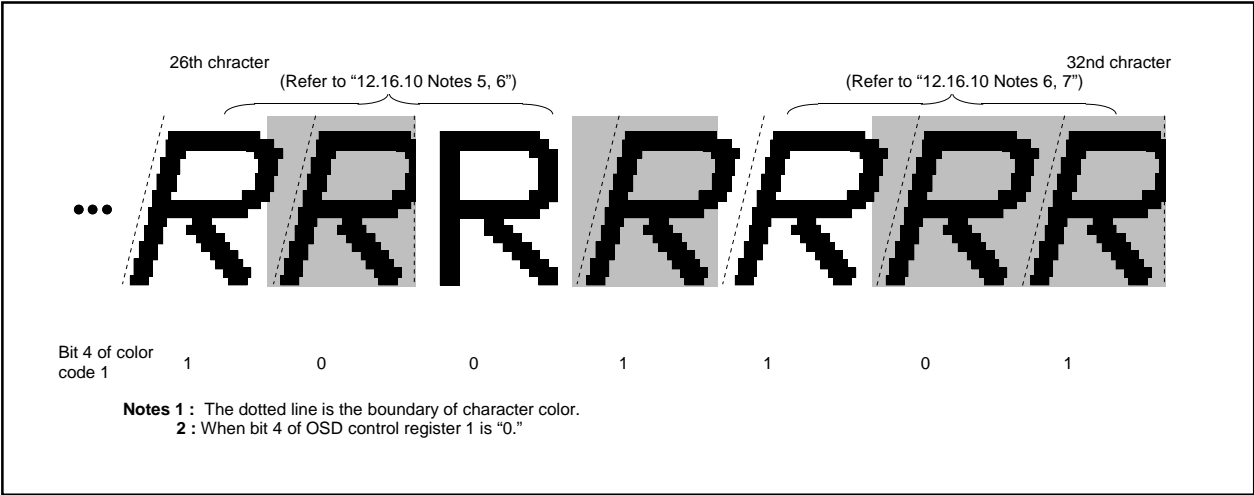

Figure 2.16.33 Example of italic display
The display example attribute is shown in Figure 2.16.33. In this case, "R" is displayed.
**5:** The boundary of character color is displayed in italic. However, the boundary of character background color is not affected by the italic (refer to Figure 2.16.33).
**6:** The adjacent character (one side or both side) to an italic character is displayed in italic even when the character is not specified to display in italic (refer to Figure 2.16.33).
**7:** When displaying the 32nd character (in 32-character mode)/42nd character (in 42-character mode) in the italic and when solid space is off (OC14 = "0"), parts out of character area is not displayed (refer to Figure 2.16.33).